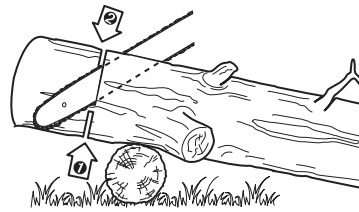

Fig. 44
- > When the log is supported on one end (Fig. 44), cut 1/3 the diameter from the underside (underbuck). Then make the finished cut by overbuck to meet the first cut.